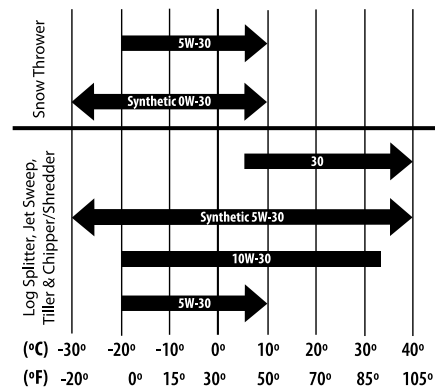

Figure 6-1
Refer to the viscosity chart (Figure 6-1) for oil recommendations. Do not over-fill. Use a 4-stroke, or an equivalent high detergent, premium quality engine oil certified to meet or exceed U.S. automobile manufacturer's requirements for service classification of a minimum level SF or SG (higher letter ratings are acceptable such as SJ, SL and SM grades). Engine oil will display this designation on the container.
12. Fill with the recommended Oil. See Figure 6-1.